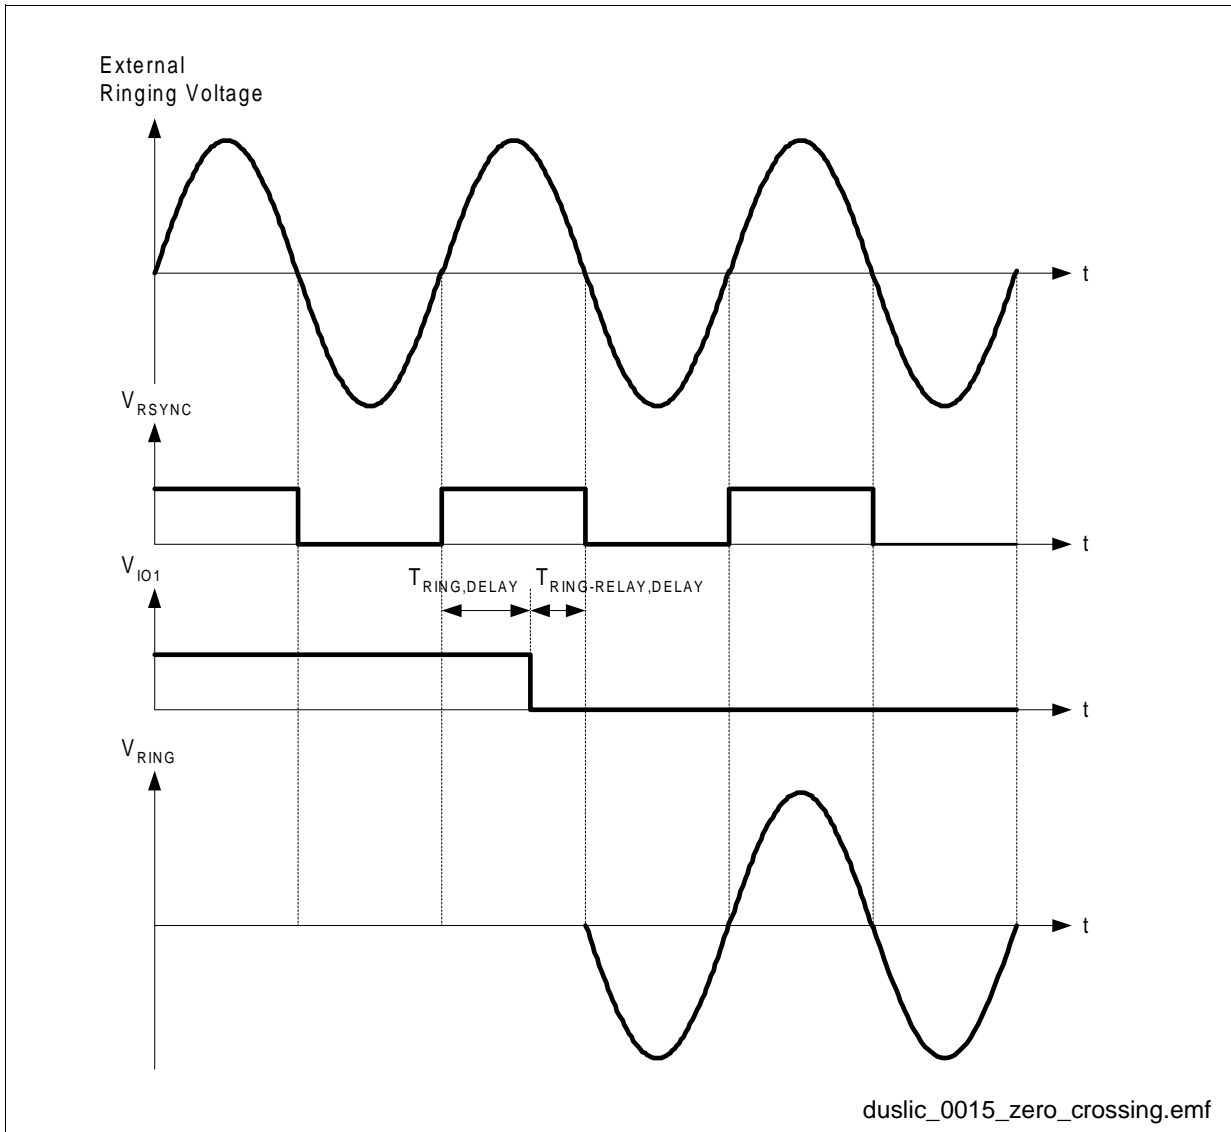

Figure 26 External Ringing Zero Crossing Synchronization
- A TTL compatible zero crossing signal has to be applied to the RSYNC pin of the SLICOFI-2x (see Figure 26).
A ring generator delay $T_{RING,DELAY}$ (see DuSLICOS control parameters 2/3) can be programmed to consider the ring relay delay $T_{RING-RELAY,DELAY}$ as shown in Figure 26.